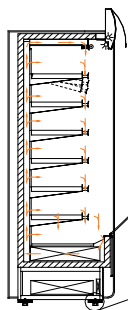

Fig.2 Removing the wooden platform
- Unpack the device and remove the wooden platform from the basis Fig.2